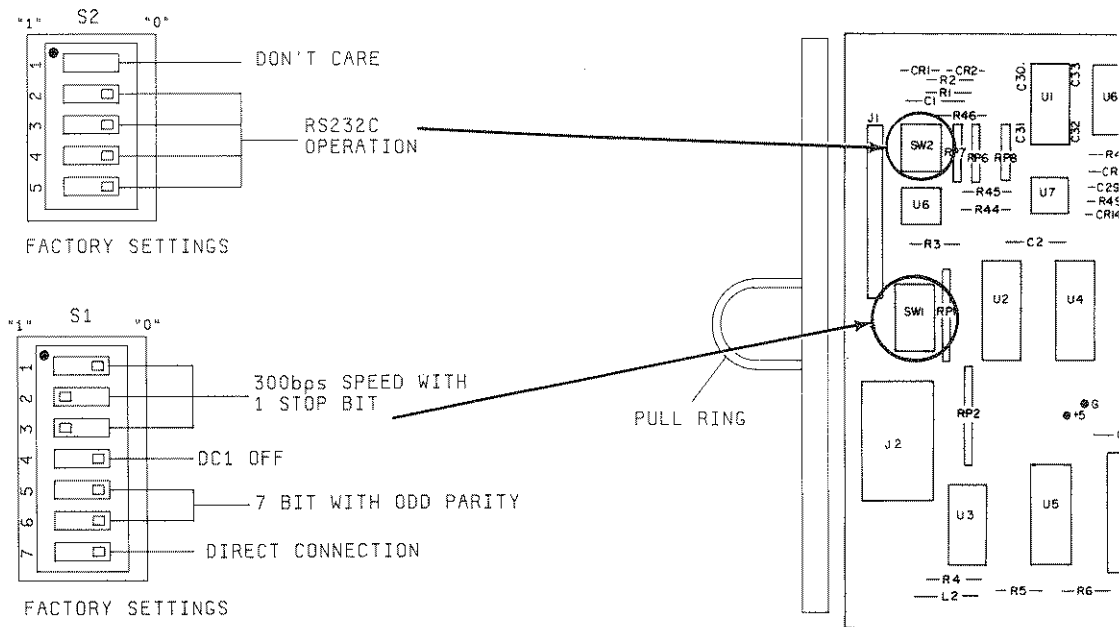

Figure 71. S1 and S2 Settings
If your application requires a setup different from the factory configuration, you can change the configuration by setting switches S1 and S2 which are located on the Outguard Controller Board inside the 3497A. Figure 71 shows the functions of each of the positions for S1 and S2.
S1 sets Direct/MODEM connection; 7 or 8-bit operation; even, odd or no parity bit; DC1 handshake on or off; speed of operation and number of stop bits. See Figure 71 for definitions.
- * From Figure 71, locate switches S1 and S2 on the Outguard Controller Board. Note that the "0" and "1" switch positions are not shown on the board, so orient the Outguard Controller Board as shown in Figure 71 to set the switches. A "0" is set when the switch is in the right-hand position and a "1" is set when the switch is in the left-hand position.